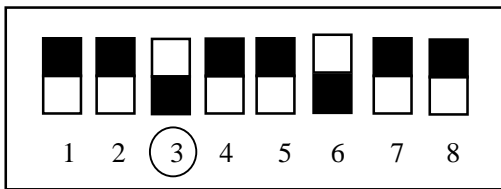

Figure 3.2.3 DIP Switches
① Before powering on the subsystem, set DIP switch No.3,6 as shown in Figure 3.2.3.